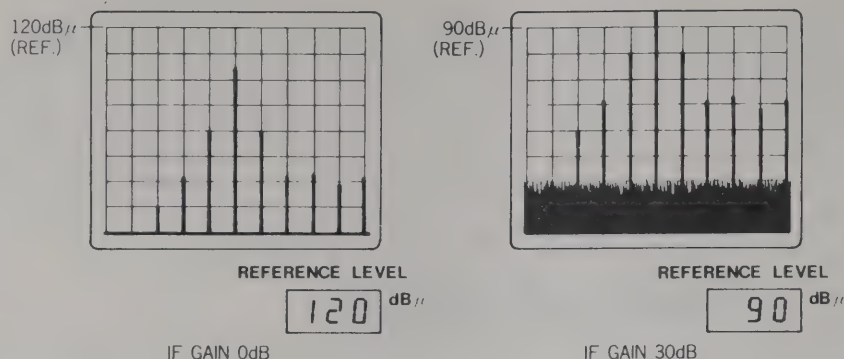

Figure 3.6 Spectrum display by changing IF GAIN
**3.4.1.10** Rotate the outer section of the IF GAIN switch clockwise (from 20 dB to 30 dB) and note that the signal level on the CRT increases by 10 dB, while the REFERENCE LEVEL readout decreases by 10 dB (100 dBuV to 90 dBuV). (NOTE: The noise level will also increase for this step.) (See Figure 3.6.)
**3.4.1.11** Next rotate the switch counterclockwise (from 30 dB to 0 dB); note that the results are the reverse of 3.4.1.10 (e.g. as the IF GAIN decreases, the CRT signal level decreases and the REFERENCE LEVEL increases). (See Figure 3.6.)